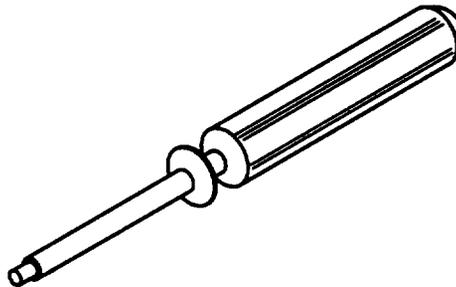

Figure 17. 980A Wire Removal Tool
2.23 The 980A wire removal tool (Comcode 103809125, Figure 17) is designed to remove terminated conductors without leaving debris in the clip. It consists of a 2-prong fork with an insulated handle. The prongs of the fork are sized to fit around the clip beneath the seated conductor. Use of the tool reduces the possibility of disturbing or degrading adjacent wire connections during the removal of wire.